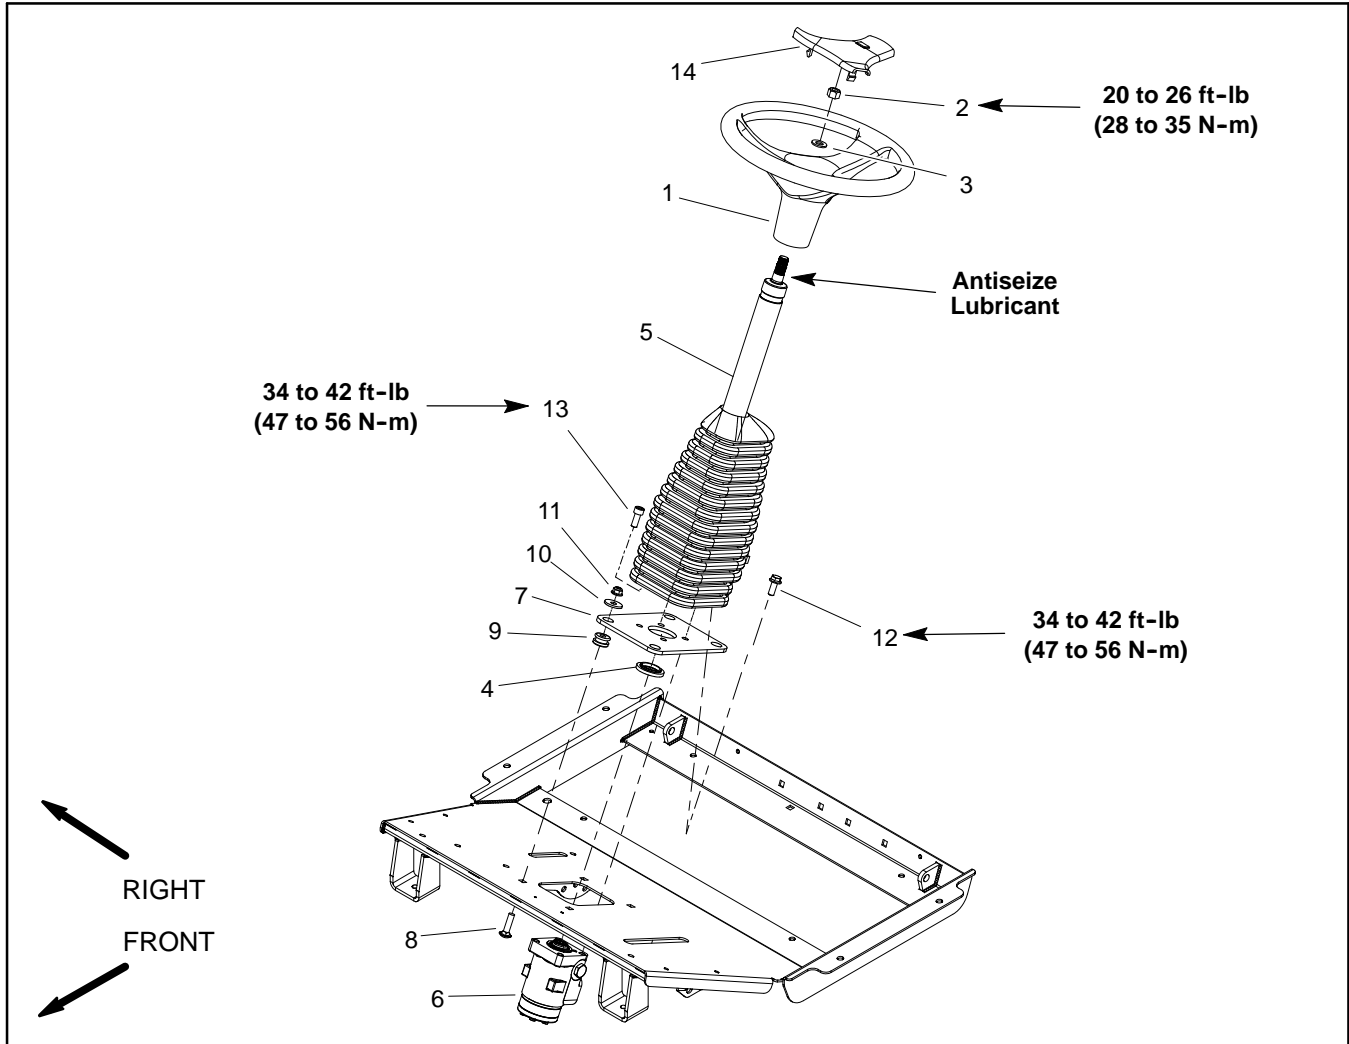

Figure 127
### Removal (Fig. 127)
**Installation (Fig. 127)**
3. Position alignment bushing (item 4) and steering plate (item 7) to steering control valve and then slide steering control valve input shaft onto steering column shaft. Position control valve with ports toward tilt lever on steering column. Make sure that alignment bushing is positioned on steering control valve and into steering plate bore.
4. Secure steering column in place with three (3) flange head screws (item 12) and one (1) socket head screw (item 13). Hand tighten screws in a crossing pattern and then torque screws again in a crossing pattern from **34 to 42 ft-lb (47 to 56 N-m)**.
6. Position mounts (item 9) between frame and steering plate at four (4) mounting holes. Secure steering column assembly to machine with four (4) carriage screws (item 8), washers (item 10) and flange nuts (item 11).